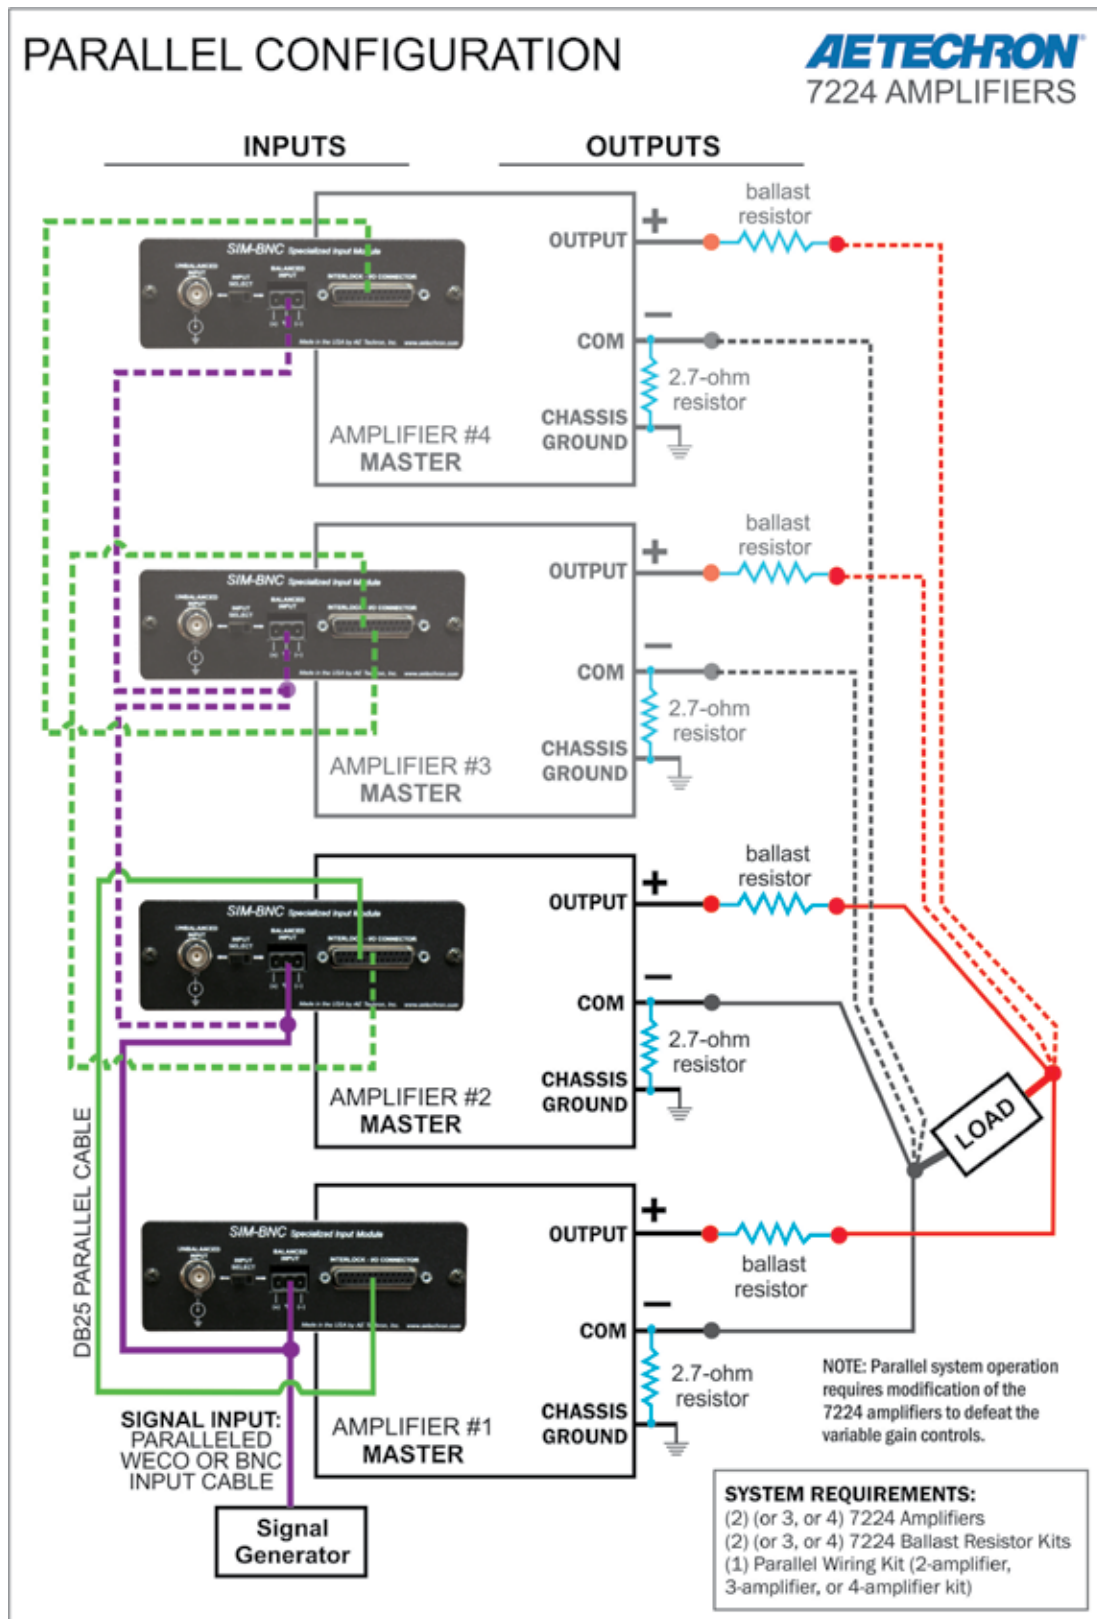

Figure B.2.31 – System Setup for Two-, Three-, or Four-Amplifier Parallel Systems
- G. See **Figure B.2.31** for completed wiring for two-, three-, and four-amplifier parallel systems.